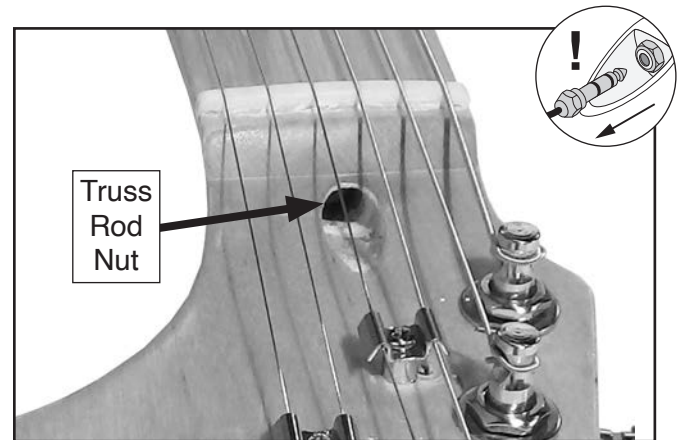

Figure 26. Location of truss rod nut.
5. Locate truss rod nut at bottom of headstock (see **Figure 26**) and turn counterclockwise to release tension on neck. Now tighten nut until it just begins to grab.